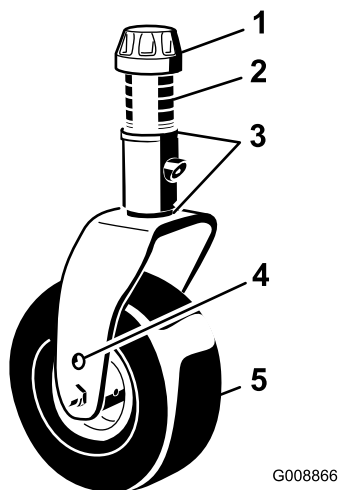
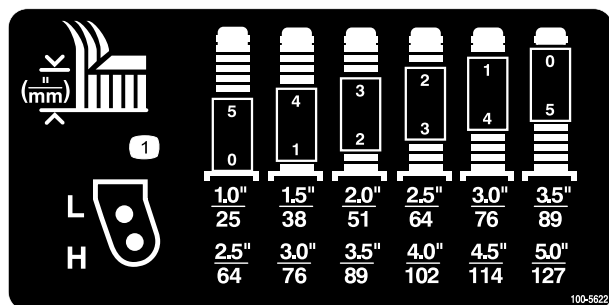

Figure 7
Figure 8
2. Position the castor wheel axles in the same holes in both castor forks. Refer to Figure 7 and Figure 8 to determine the correct holes for the setting.
3. Remove the tensioning cap from the spindle shaft (Figure 7) and slide the spindle out of the castor arm. Put the 2 shims (1/8 inch) onto the spindle shaft as they were originally installed. These shims are required to achieve a level across the entire width of the cutting units. Slide the appropriate number of 1/2 inch spacers onto the spindle shaft to get the desired height-of-cut; then slide the washer onto the shaft.
Refer to Figure 8 to determine the combinations of spacers for the setting.